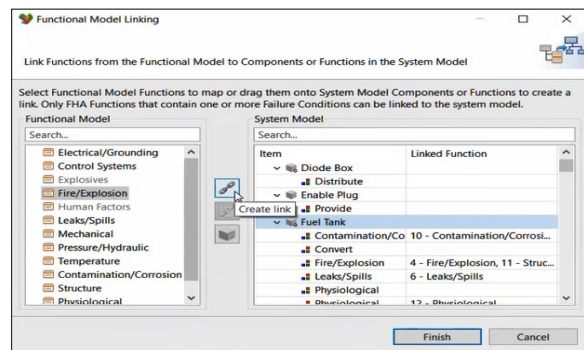

Figure B28: Linking Window
- 1) Begin linking each hazard category, aka *Function*, to its related item by right-clicking the “Functional Failure Hazard Category,” and opening *Functional Model Linking* window, (Figure B28) and selecting “Link to System Model.”